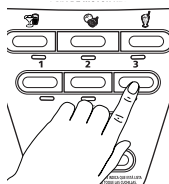

Fig. 22
1. Press the Speed 3 button to run the product at a high speed (Fig. 22).